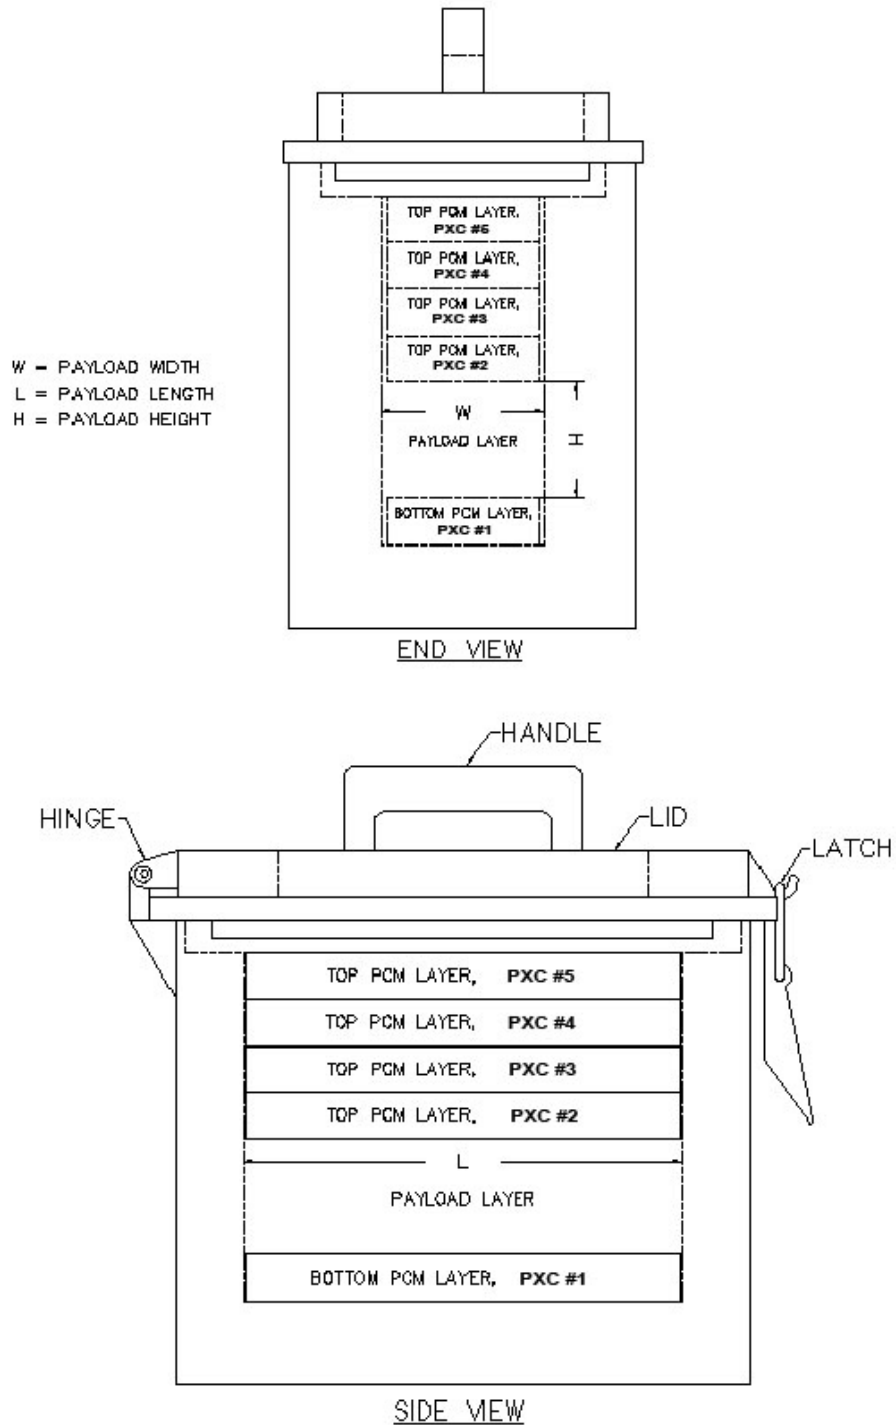

Figure 1
- Evenly distribute the payload on top of the first layer of PCM material with the payload height (H) not exceeding 2.0”. (See Figure 1)